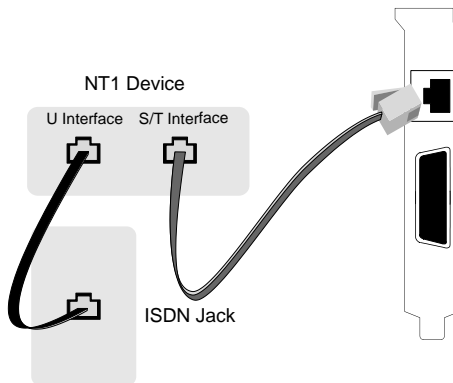

Figure 5: Connecting through an NT1 Device
- **In North America and Australia**, a network termination device (NT1) is required. Connect one end of the ISDN cable to the WAN Adapter, and connect the other end to the S/T interface connector on your NT1. Connect one end of the cable provided with your NT1 to its U interface connector, and connect the other end to the wall jack installed by your ISDN service provider. These connections are shown in Figure 5 below.